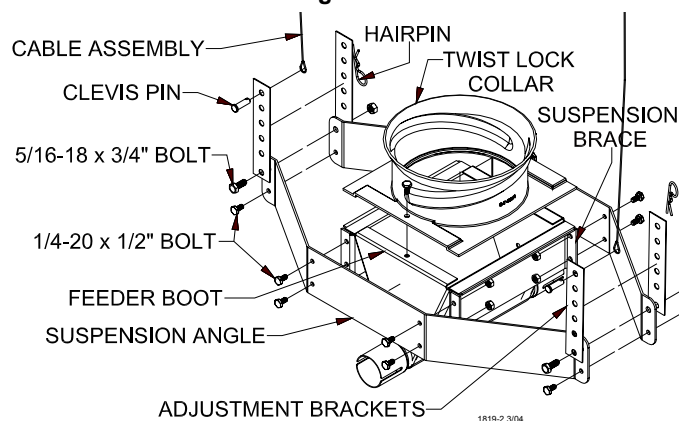

Figure 15.
3. Assemble suspension angles and suspension braces around feeder line boot (single or twin), using 1/4-20 x 1/2" Hex bolts and nuts (supplied in hardware package), see figure 15.
4. Assemble the twist lock collar to the top of the feeder line boot (single or twin) using 1/4-20 x 1/2" bolts and lock nuts (supplied in hardware package), see figure 15.
6. Two cable assemblies (cable with a sleeve clamp and a 5/32 thimble) are supplied with the suspension kit to support the hopper. Attach the cable assemblies to the adjustment brackets using the top holes of the adjustment brackets, see figure 15.